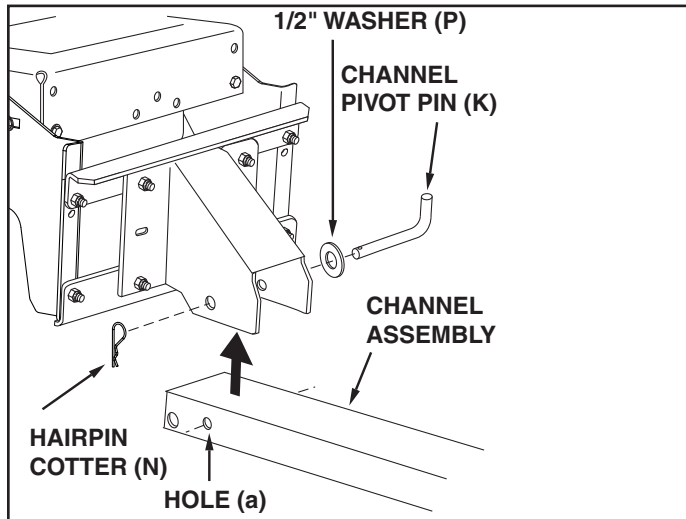

FIGURE 7
STEP 7: Assemble the 1/2" washer (P) onto the channel pivot pin (K). See figure 7.
- Attach the channel assembly to the tractor by placing the end of the channel assembly up inside the pivot support bracket on the tractor. Align hole (a) in the channel assembly with the hole in the pivot support bracket. Insert the channel pivot pin through the aligned holes from the left side, and secure it with a hairpin cotter (N).
8. Remove the hairpin cotter from the channel pivot pin and remove the pivot pin from the channel assembly. See figure 7 on page 6.